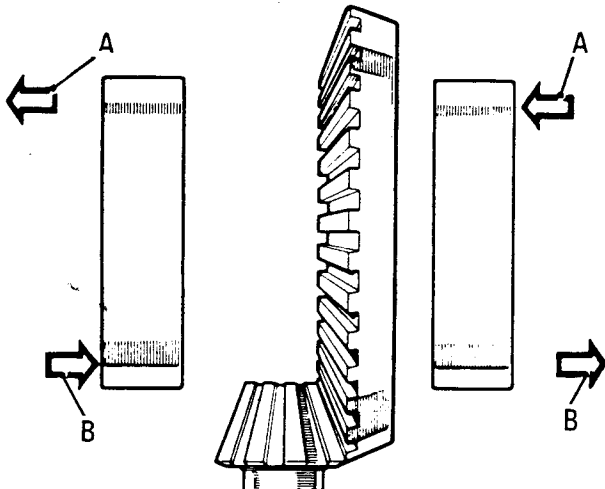

Fig J2.64
- (19) Refer to Fig J2.64. Move the serrated nuts in direction A to reduce backlash.
- (20) Move the serrated nuts in direction B to increase backlash.